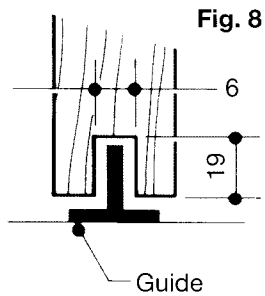

Fig. 8
Machine base guide groove if required (Fig. 8)
5. Check the combined door height, track assembly height and floor clearance against the door aperture height. Machine door to correct height if necessary. Locate positions of door top plates (Fig. 7). Drill pendant clearance bolt holes and screw fixing holes. Fix plates firmly to the door with the specified fixings. Machine base guide groove if required (Fig. 8).